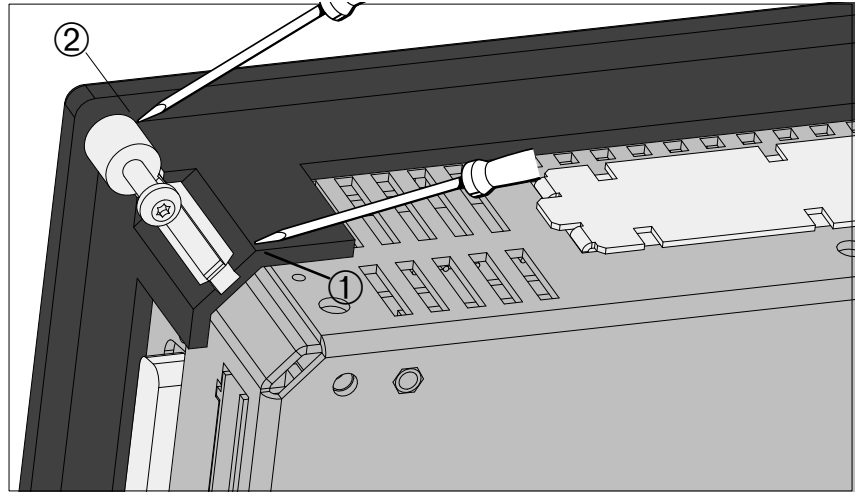

Figure 2-6 Loosening the Fixing Bracket
2.	Lift fixing bracket (① in Figure 2-6).
3.	Push fixing bracket out of guide (② in Figure 2-6).